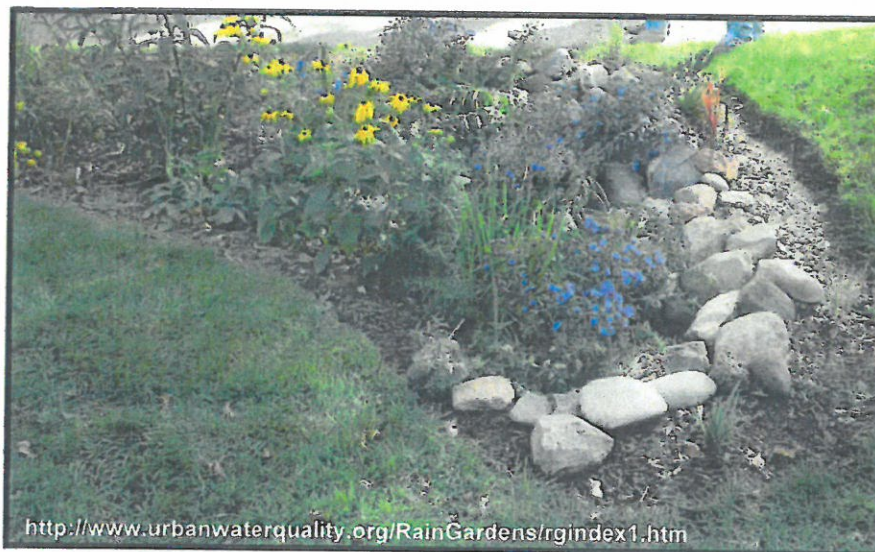

Figure 2: Rain gardens also have aesthetic value.
- Aesthetic improvement to turfgrass or otherwise hard urban surfaces (Figure 2)
The rain garden system relies on a successful native plant community to stabilize the ponding area, promote infiltration, and uptake pollutants (Figure 2). To do that, plant species need to be selected that are adaptable to the wet/dry conditions that will be present. The goal of planting the